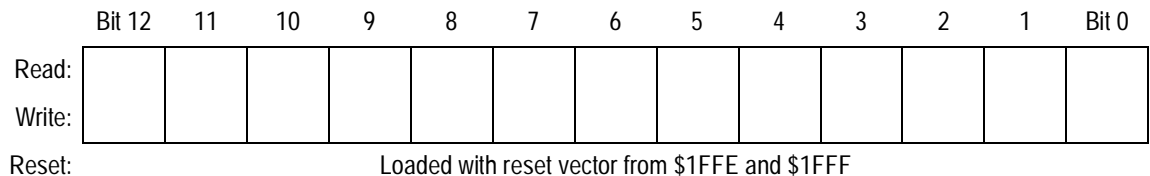

Figure 3-5. Program Counter (PC)
The program counter (PC) shown in Figure 3-5 is a 13-bit register that contains the address of the next instruction or operand to be fetched.